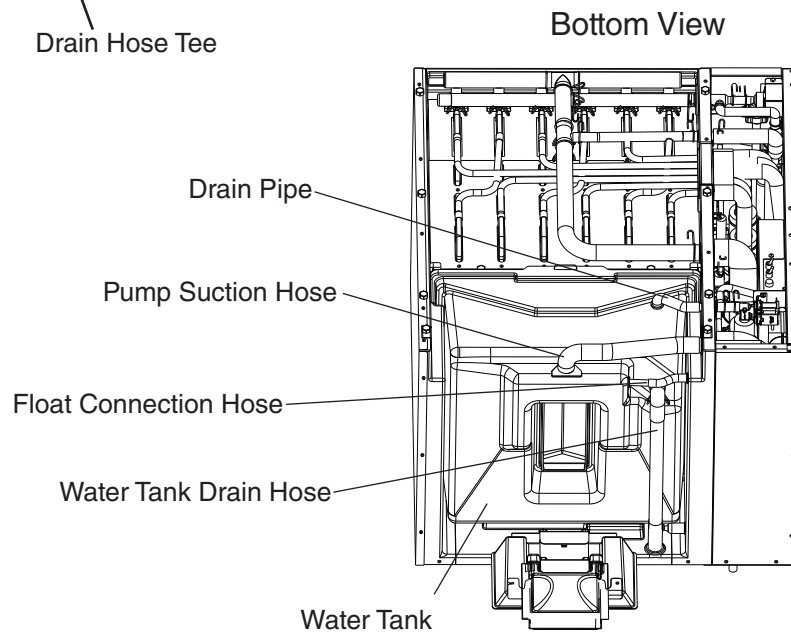

Fig. 22
- 18) Disconnect the hoses connected to the water tank. Allow the tank and hoses to drain completely. See Fig. 22.